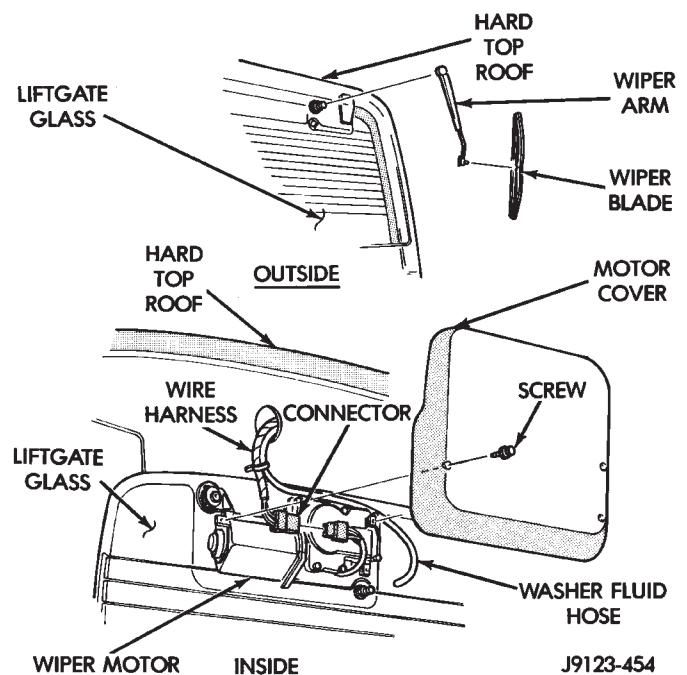

Fig. 88 Liftgate Wiper Motor
- (1) Disconnect the rear defroster/dome lamp wire harness connectors.
- (2) Remove the wiper motor cover. Disconnect the wiper motor wire harness connector and the washer fluid hose (Fig. 88).
- (3) Remove the wiper arm and blade (Fig. 88).
- (7) Connect the wiper motor wire harness connector and the washer fluid hose. Install the wiper motor cover (Fig. 88).
- (8) Install the wiper arm and blade (Fig. 88).
- (9) Connect the rear window defroster/dome lamp wire harness connectors.